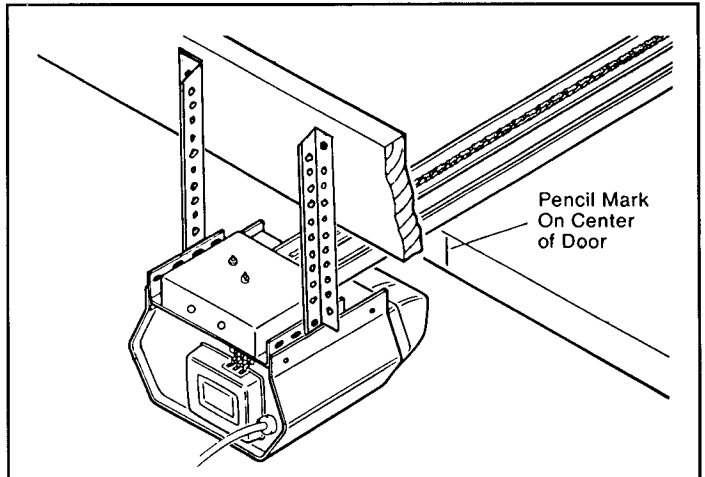

Figure 10
Step 18: With 2" lag screws, bolt the hanging material of your choice to power head using the carriage bolts and keps nuts. Use the most convenient holes on power head for this step (see Figure 10).
Step 20: Raise channel two inches above top edge of door. Place 2x4 on door and rest operator on it. Use 2" lag screws provided to attach hanging material to ceiling joist or header (see Figure 10). Note that the channel must clear the door.
Installation requirements may vary with garage construction. Additional material may be required for finished ceiling (drywall or plaster). In such cases, be sure that the hanger straps are secured to the ceiling joists, or to a header plate (see Figure 10) which in turn must be attached through the finished ceiling to the supporting joists.